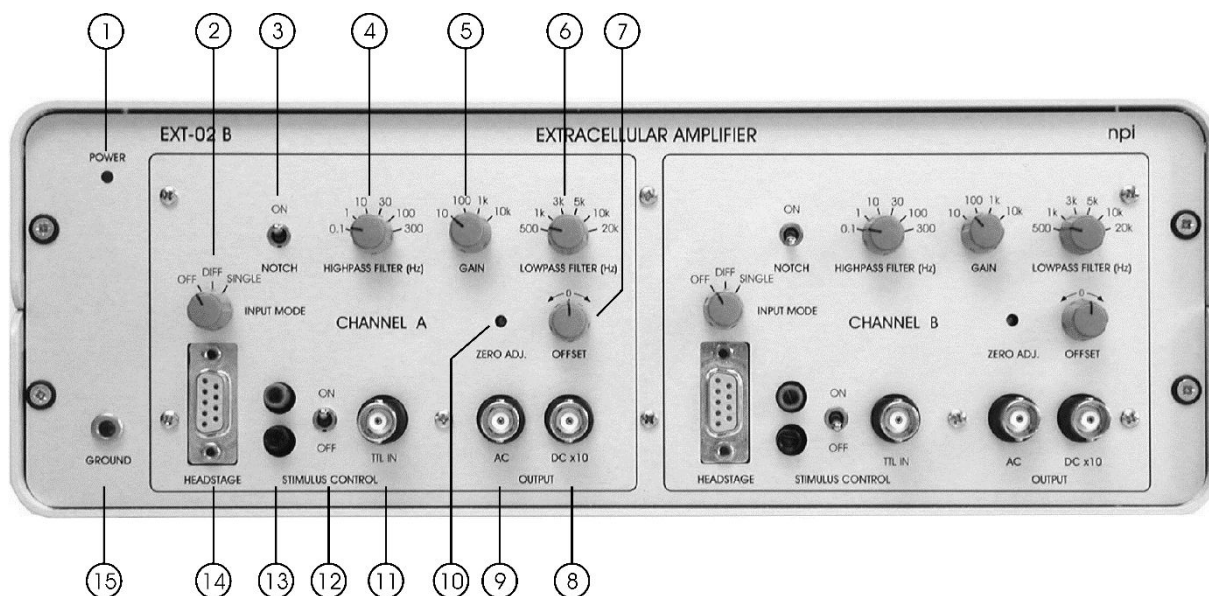
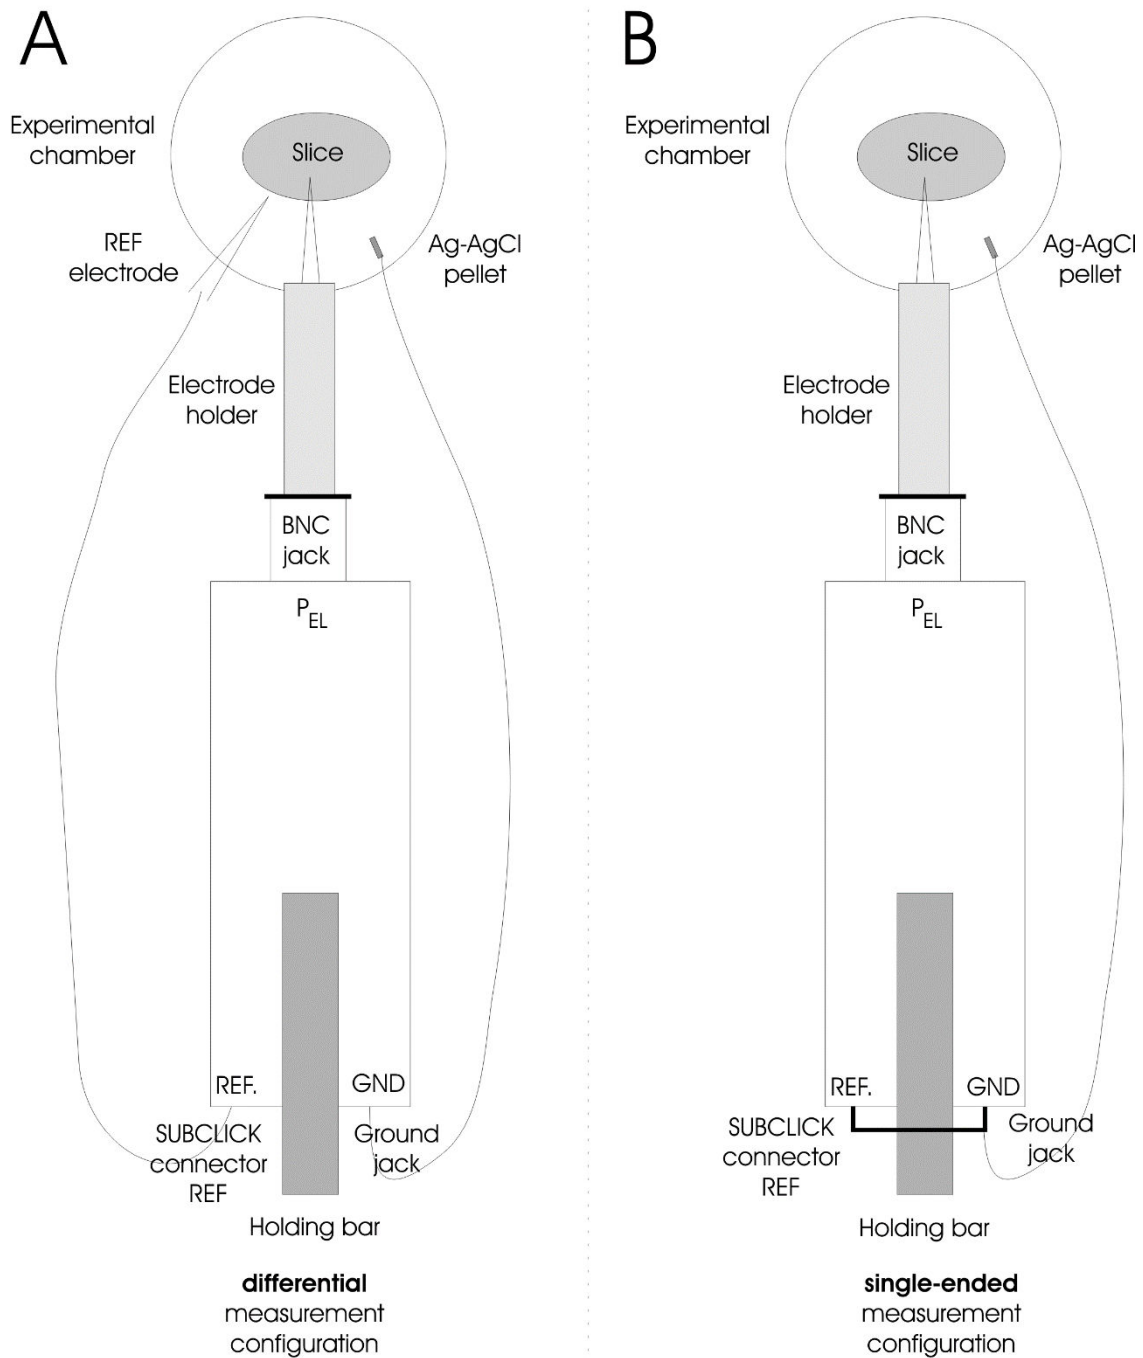

Figure 1: EXT-02 B front panel view
Figure 4: headstage connections, A: differential measurement, B: single-ended measurement
In the following description of the front panel elements, each element has a number that is related to that in Figure 1. The number is followed by the name (in uppercase letters) written on the front panel and the type of the element (in lowercase letters). Then, a short description of the element is given. Since the front panel elements are identical for each channel A and B (with identical functions and labels) these elements are numbered and described only once (for channel A). Signal is the recorded signal, REF is the signal from the reference input of the headstage.
The EXT-02 B has a headstage which can be switched from recording mode to stimulation mode. This enables the researcher to record and to stimulate through the same electrode. Switching between recording and stimulation mode is achieved either by a TTL signal fed into TTL IN connector (#11, Figure 1) or by manually toggling a switch (#12, Figure 1).
In recording mode, the signal detected at the electrode is pre-amplified in the headstage and fed into the EXT-02 B for further amplification and filtering. In stimulation mode the preamplifier in the headstage is disconnected from the electrode and the stimulation line is connected to the electrode instead. The signal is fed into the stimulation line at the black and red input connectors at the front panel (see #13, Figure 1).
For differential measurements, both inputs are connected to electrodes using cables with grounded enclosure or electrode holders. +IN (PEL) is connected to the measuring electrode and -IN (REF.) to the reference electrode. The experimental chamber is grounded by an Ag-AgCl pellet (or an AGAR bridge) connected to GND of the headstage (see Figure 4).
***Important:*** If differential measurement is not required (single-ended measurement configuration), the REF input must be connected to ground (GND at the headstage, see Figure 4) or the INPUT MODE switch (#2, Figure 1) must be set to SINGLE.
***Hint:*** The REF connector of the headstage can also be set to GND by setting the INPUT MODE switch (#2, Figure 1) to SINGLE. This leads to a further reduction of the noise.